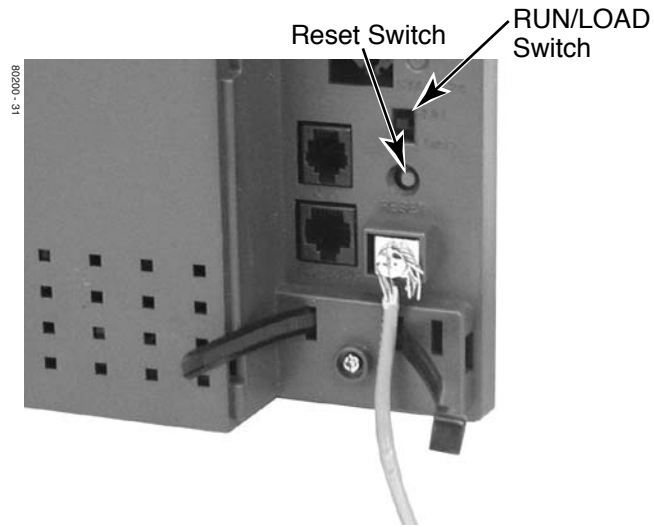

Figure 5-4: Resetting Your System
**To reset your system** (Figure 5-4):